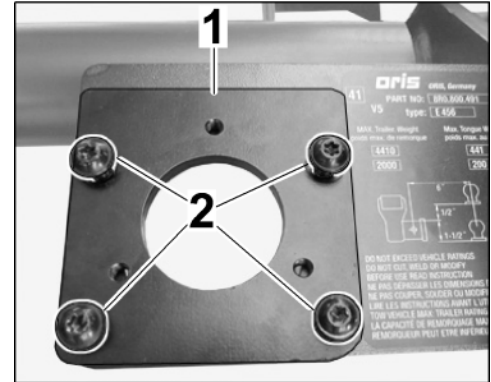

Figure 14
3.1.1 Install metal plate adapter with four screws M5 x 16 on towbar system (⇒ *Figure 14*).